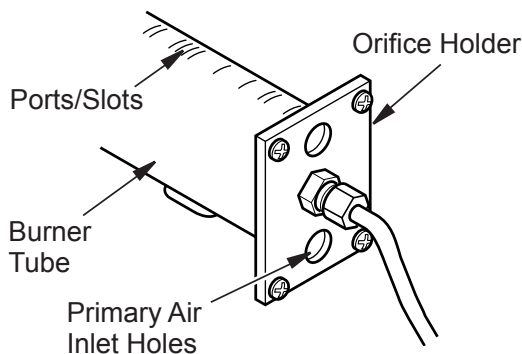

Figure 48 - Orifice Holder On Outlet Burner Tube
2. Inspect burner, pilot and primary air inlet holes on orifice holder for dust and dirt (see **Figure 48**).